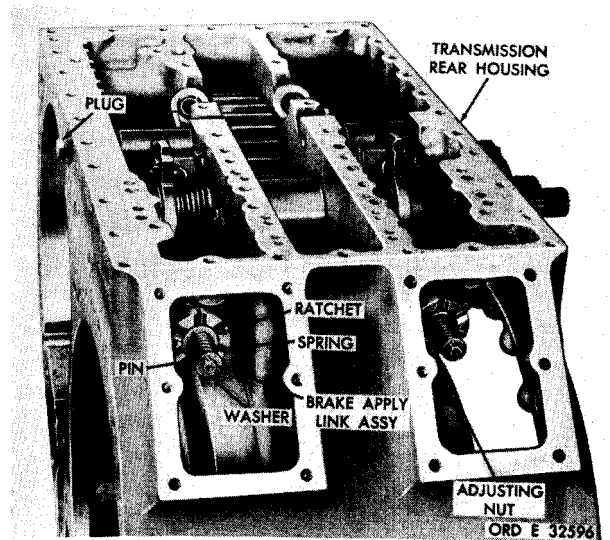

Figure 177. Transmission rear housing and component parts
i. Using 11/16-inch wrench, remove the hexagon-head plug (fig. 177).
j. Straighten the pin on each brake apply link assembly and remove the pins, washers, springs, ratchets and adjusting nuts (fig. 177).